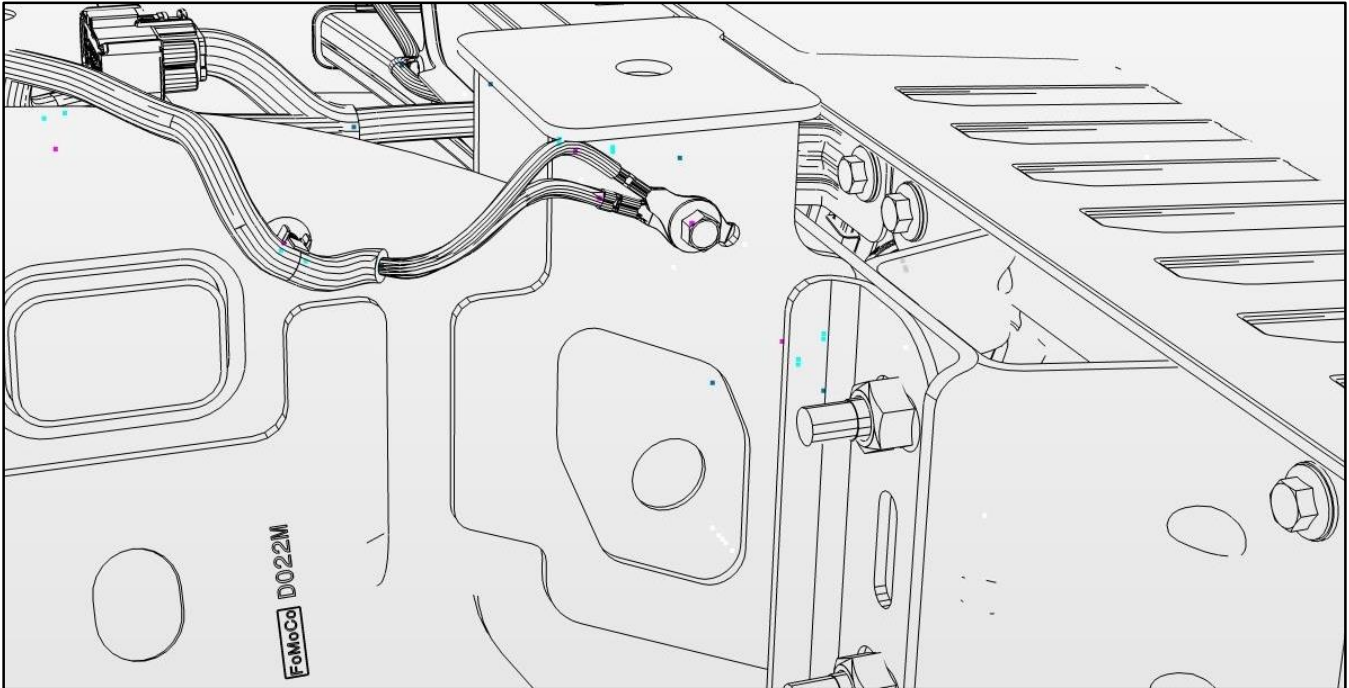

Figure 3: Ground added to the side of the Frame (F150 shown Super Duty similar)
- ✓ Only add ground cables to the **sides of frame rails** (Figure 3)